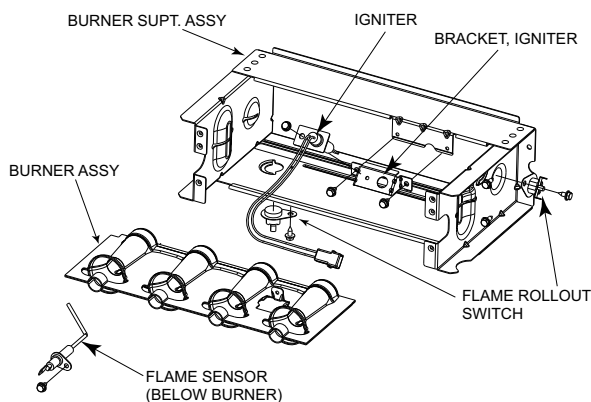
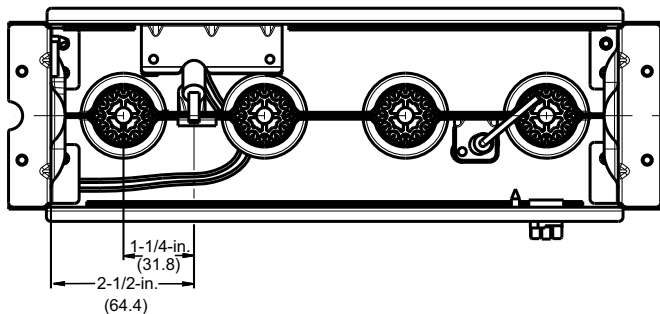
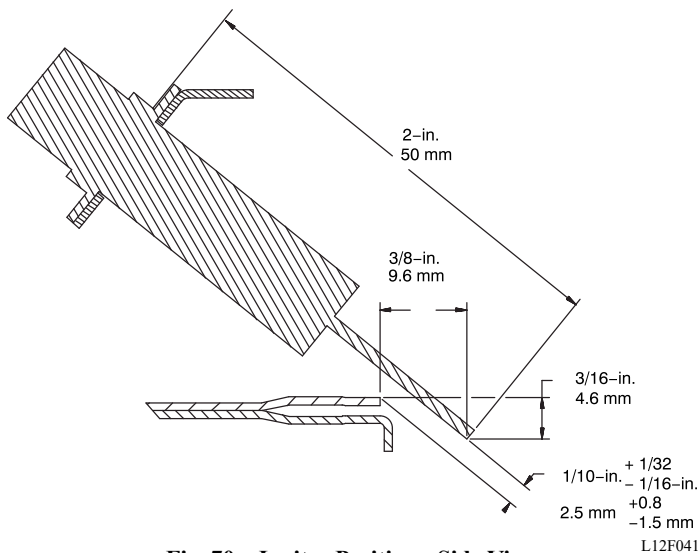

Fig. 68 – Burner Assembly
Fig. 69 – Igniter Position - Top View
Fig. 70 – Igniter Position - Side View
Refer to Fig. 68.
8. Check the igniter alignment. See Fig. 68, Fig. 69, and Fig. 70.
The igniter does **NOT** require annual inspection. Check igniter resistance before removal. Refer to Fig. 68, Fig. 69, and Fig. 70.
- a. Using a 1/4-in. driver, remove the two screws securing the igniter mounting bracket to the burner assembly See Fig. 68.
6. To replace igniter and bracket assembly, reverse items 5a through 5d.
7. Reconnect igniter harness to the igniter, dressing the igniter wires to ensure there is no tension on the igniter itself. See Fig. 68.